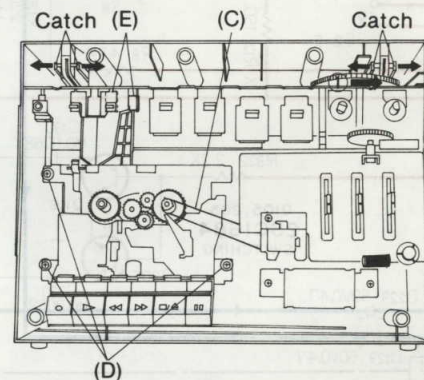

Fig. 5
- * 1. Turn the drum gear in the direction of arrow ① as shown in fig. 5.